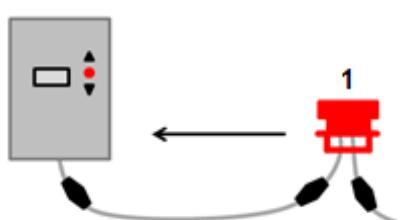

Figure 4: Connecting to the door controller
2. Connect the first motion detector to the door controller (Figure 4, Pos. 1).